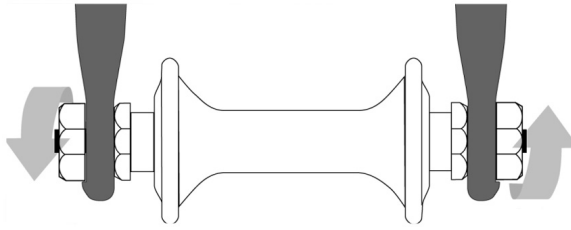

figure 10
- Hex nuts or hex key bolts which are threaded on to or into the hub axle (bolt-on wheel) (figure 10)